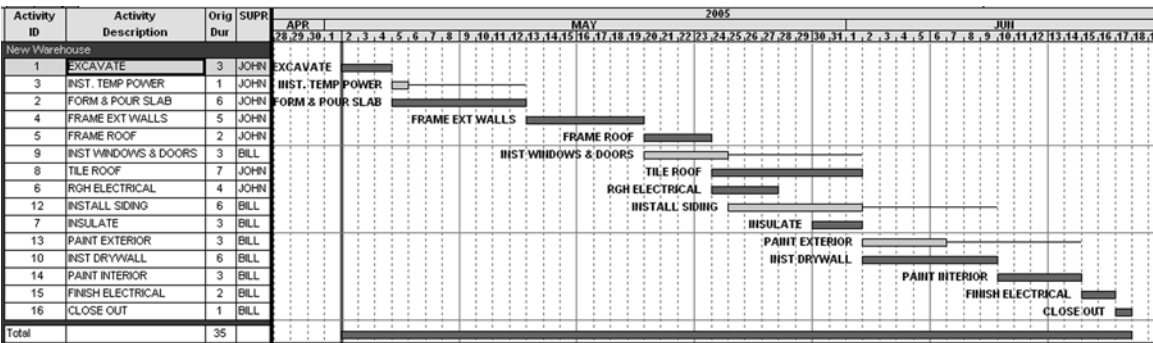

FIGURE 20.26 New project schedule based on a past project
3. Change the start date. Select **File, Project Overview** from the Menu bar. Change the project start date to two months from today. While in this screen you can change the version and title, if desired. If the bars are not visible, recalculate the schedule and they will show up. Remember, anytime a change is made that affects the calculations a new forward and backward pass needs to be performed. The schedule for the new project should look similar to Figure 20.26.